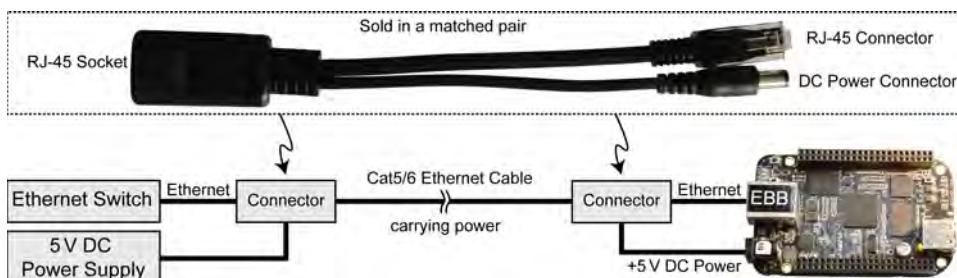

Figure 10-13: AdaFruit *pseudo-PoE* cable
- **Use a *pseudo-PoE* cabling structure:** Adafruit sell a *Passive PoE Injector Cable Set* (~\$6), illustrated in Figure 10-13, for which you can use a regular 5V mains supply to inject power into the unused twisted pair wires, and then draw that power at the other end of the cable. **Under no circumstance should such cables be connected to a true-PoE switch!**